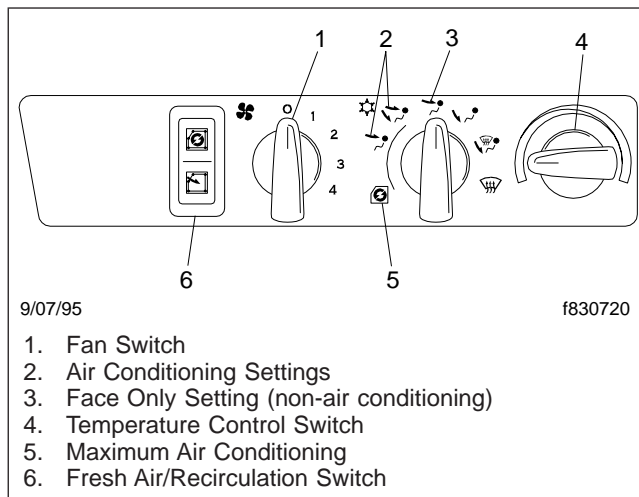

Fig. 4.11, Air Conditioning Settings
2. Move the air selection switch to the non-air conditioning face only position and turn the fan switch off before starting the engine. See Fig. 4.11.